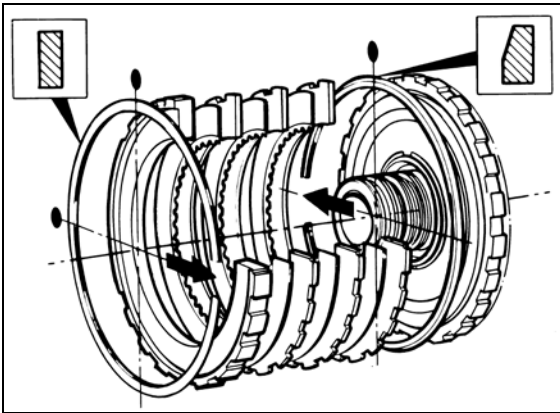
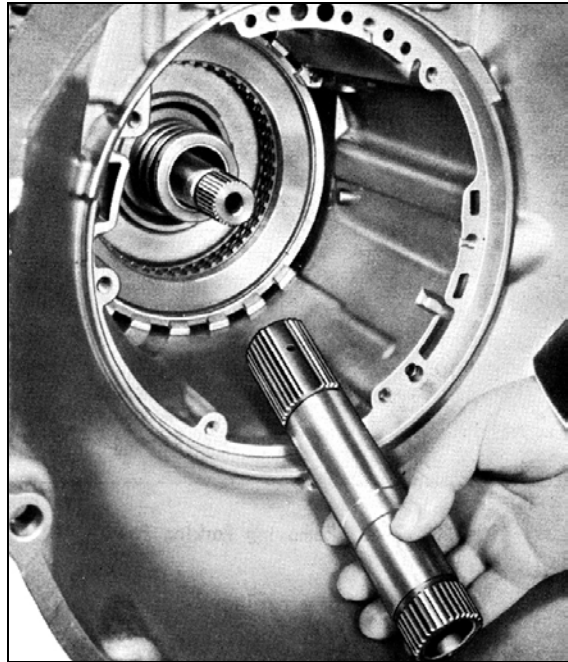

FIGURE 2-55
FIGURE 2-56
Snap rings are used to retain the intermediate clutch pack components and center support to the case. See Figure 2-55. Remove the sun gear shaft (664) from the center support. See Figure 2-56.